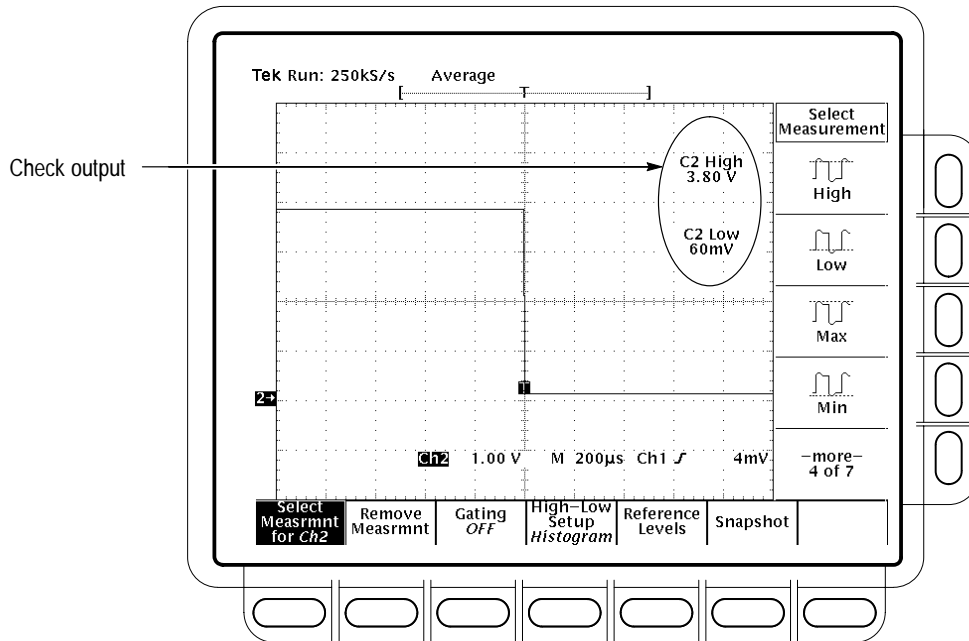

Figure 1–21: Measurement of Main Trigger Out Limits
- CHECK that the **Ch2 High** readout is ≥ 2.5 volts and that the **Ch2 Low** readout is ≤ 0.7 volts. See Figure 1–21.
d. *Check Delayed Trigger output against limits:* See Figure 1–21.